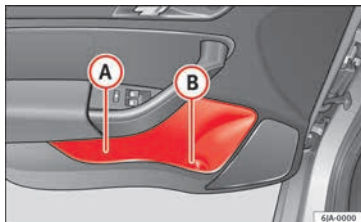

Fig. 159 Storage compartment in door trim.
There is a bottle carrier in part (B) » Fig. 159 of the storage compartment in the front door.
Only use part (A) » Fig. 159 of the compartment in the front door to store objects that do not protrude from it so as not obstruct the deployment area of the side airbags.